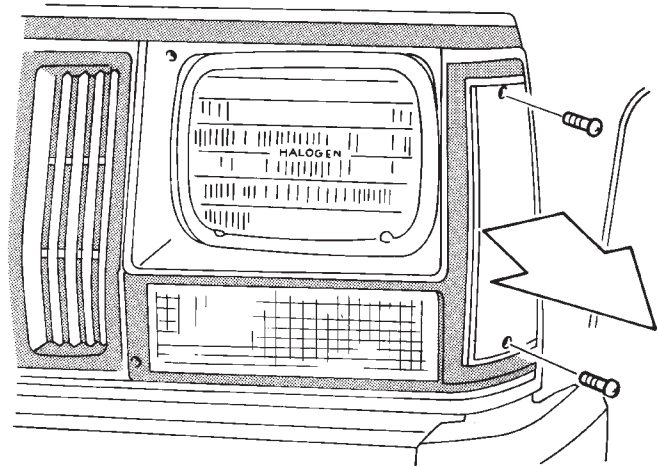

Fig. 17 Side Marker Lamp—XJ Vehicles
(1) Remove the screws from the side marker lamp lens and housing. Separate lens and housing from the headlamp bezel (Fig. 17).
(1) Install a replacement bulb in the socket.
(2) Install bulb and socket in the back of side marker lamp housing.
(3) Position the side marker lens and housing on the headlamp bezel (Fig. 17).
(4) Install the side marker lamp screws. Tighten the screws.